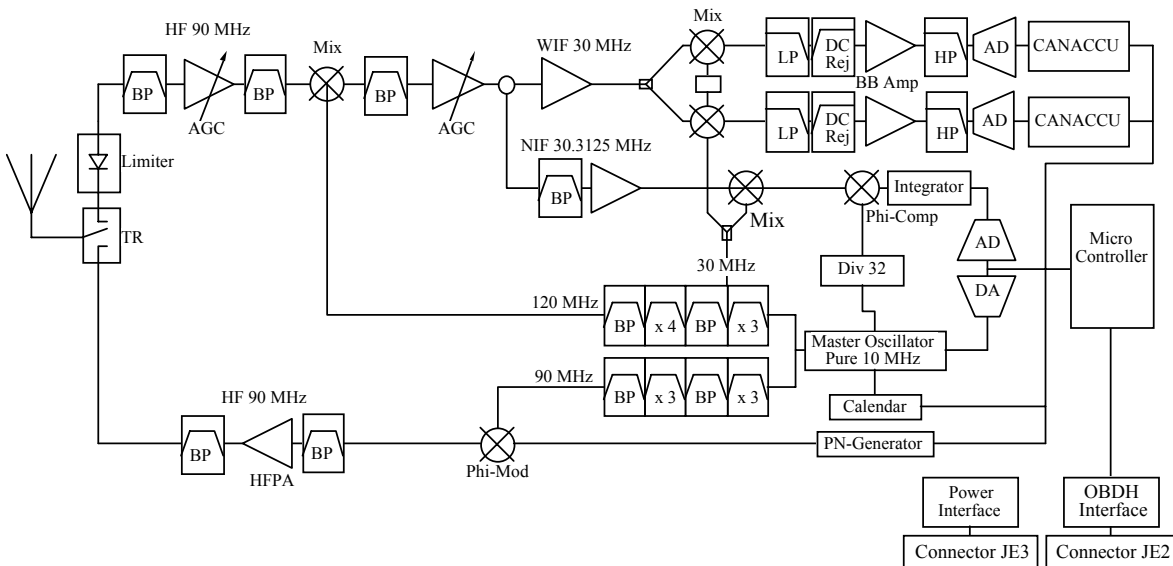

Figure 2 : Electronic box of the CONSERT experiment.
In Figure 2, a complete structure of CONSERT experiment on the orbiter is given. At the left is the antenna which is connected to the Transmit and Receive (TR) switch. The upper part of the figure shows the receiver. From left to right, one can recognize the Radio Frequency section, with Front End Amplifier (FEA), Band Pass filters, automatic gain control (AGC), then a mixer with a 120 MHz Local Oscillator. It is followed by a wide band intermediate frequency section (WIF) at 30 MHz feeding the in-phase and quadrature detectors. A low pass filter is provided for both I and Q base band amplifiers (WBB) and a high pass section is present to eliminate DC components. Each receiver section (RF, WIF, and WBB) has a maximum gain of about 30 dB and each AGC